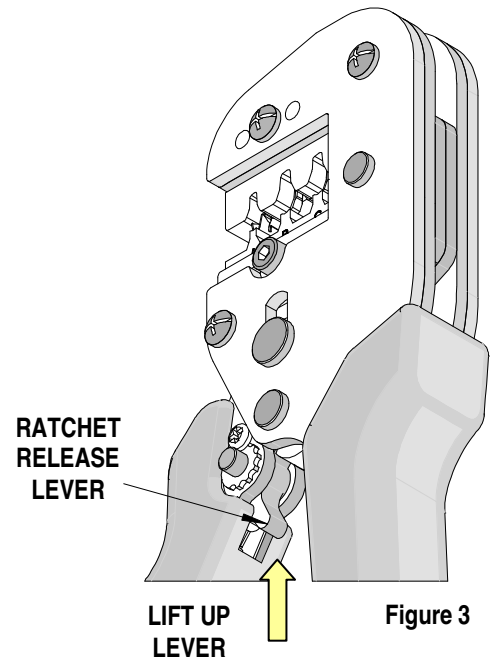

Figure 3
6. While holding the wire in place, slowly close the handles of the tool. If excessive resistance is felt, there may be a jam. If this occurs, stop closing the tool and release the anti-backup ratchet by lifting up the lever near the top of the moving handle. See figure 3.
If the tool ever becomes jammed in a partially closed position, **DO NOT force the handles open or closed.** The tool will open by lifting the ratchet release lever. See Figure 3.